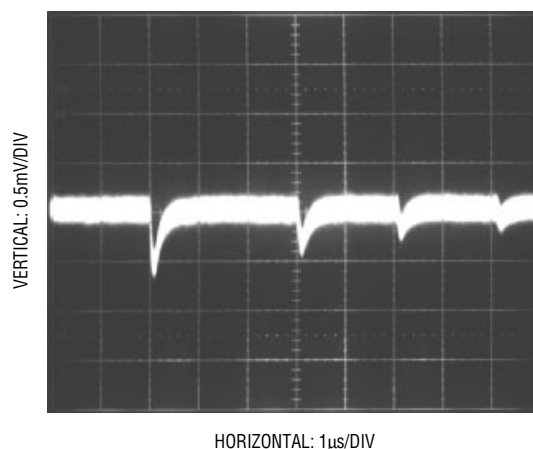

Figure 15. Adequate Reference Settling
2. Transients on the reference inputs caused by the capacitive switching currents must settle completely during each bit test (each 4 ACLK cycles). Figures 15 and 16